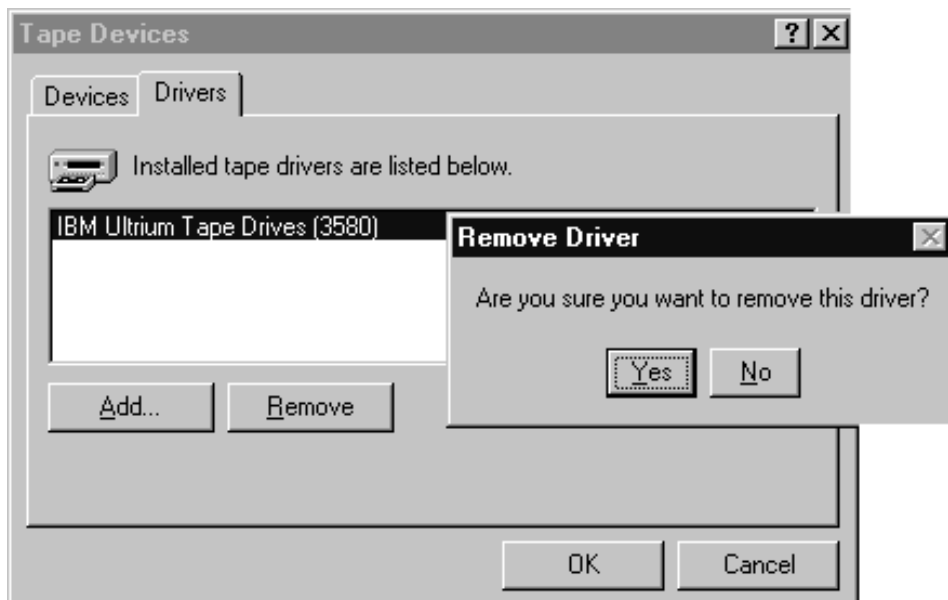

Figure 21. Remove Driver Menu
5. Highlight **IBM Ultrium Device Driver**, then click **Remove**. When you see the message **Are you sure you want to remove this driver?**, click **Yes**. See Figure 21.